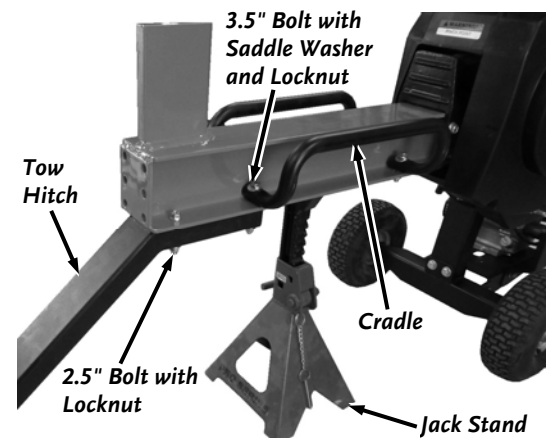

Figure 2
2. Support the Beam with a Jack Stand or equivalent to hold the Beam up (Figure 2).